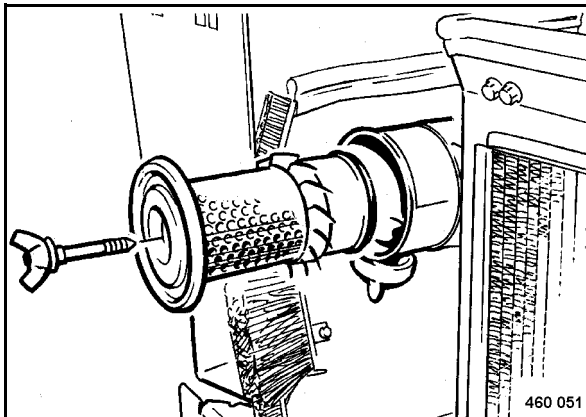

Fig. 134
- Unscrew the wing screw and pull the air filter cartridge (Fig. 134) out of the air filter housing.